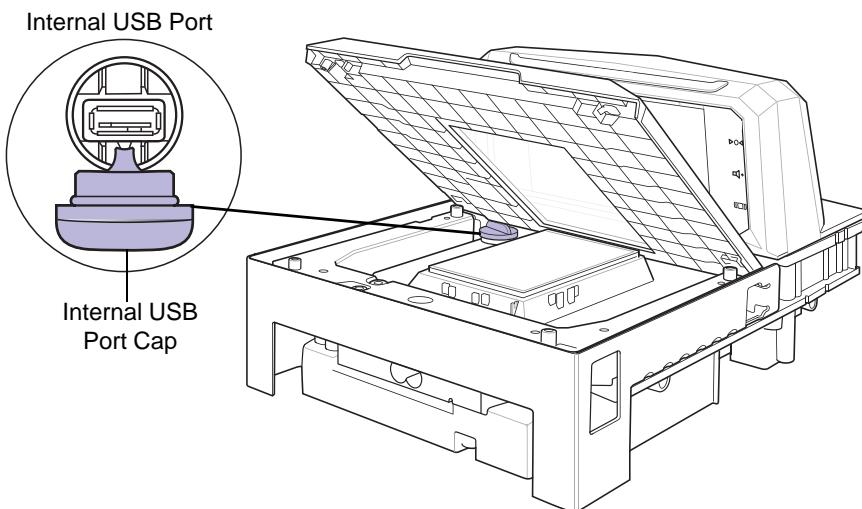

Figure 5-10 *USB Port Under the MP6000 Platter*
The MP6000 has three USB ports which can be used to load files (see Figure 5-10):
- Insert the staging flash drive into one of the MP6000 USB ports (Figure 5-10), and select *Option 1 - Load Files* (see Step 3).